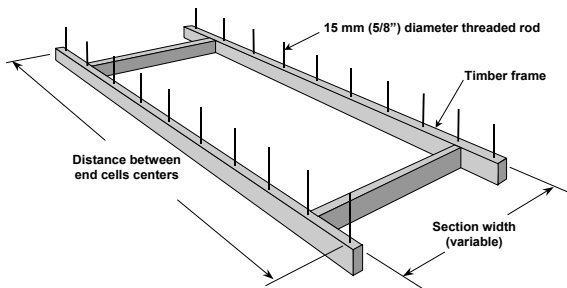

Figure 3 Stretcher Frame
- **Option 2:** Expand and fit the Geoweb® section over the dowels of a suitably dimensioned stretcher frame. See Figure 3 and Figure 12. Invert the frame and position the section to receive infill material. When the section is filled, remove the frame and repeat the process.